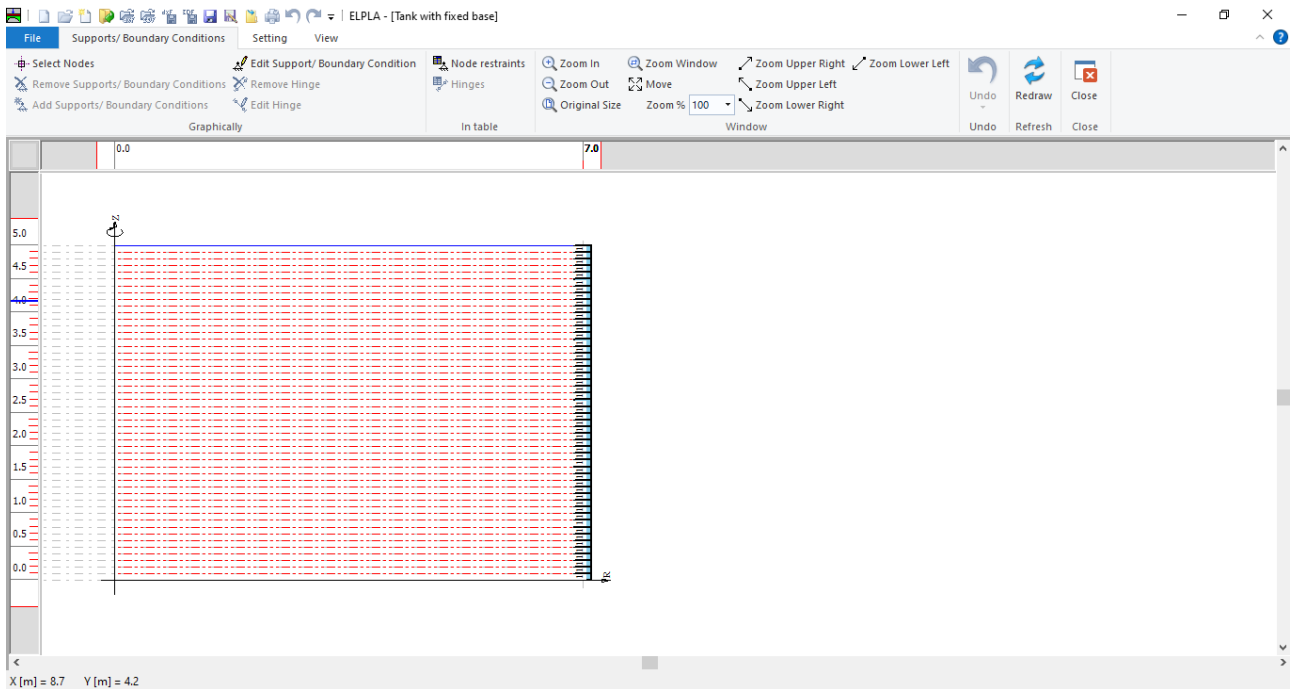
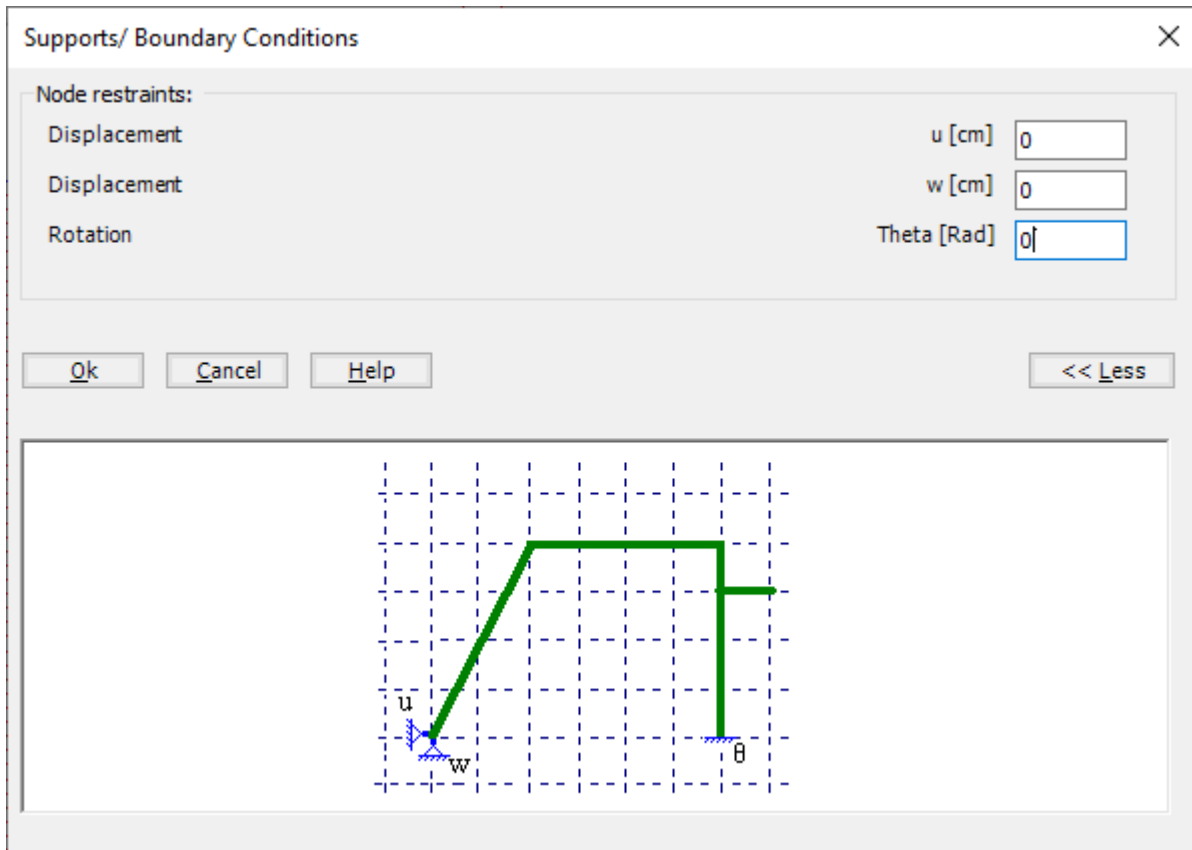

Figure 3.14 "Supports/ Boundary Conditions" Window
Figure 3.16 "Supports/ Boundary Conditions" dialog box
To define the fixed support, choose "Supports/ Boundary Conditions" command from "Data" Tab. The following window in Figure 3.14 appears.
- Choose "Select Nodes" command from "Graphically" menu in Figure 3.14. When "Select Nodes" command is chosen, the cursor will change from an arrow to a cross hair
- After selecting the node, choose "Add Supports/ Boundary Conditions" command from "Graphically" menu (Figure 3.14). The "Supports/ Boundary Conditions" dialog box in Figure 3.16 appears.